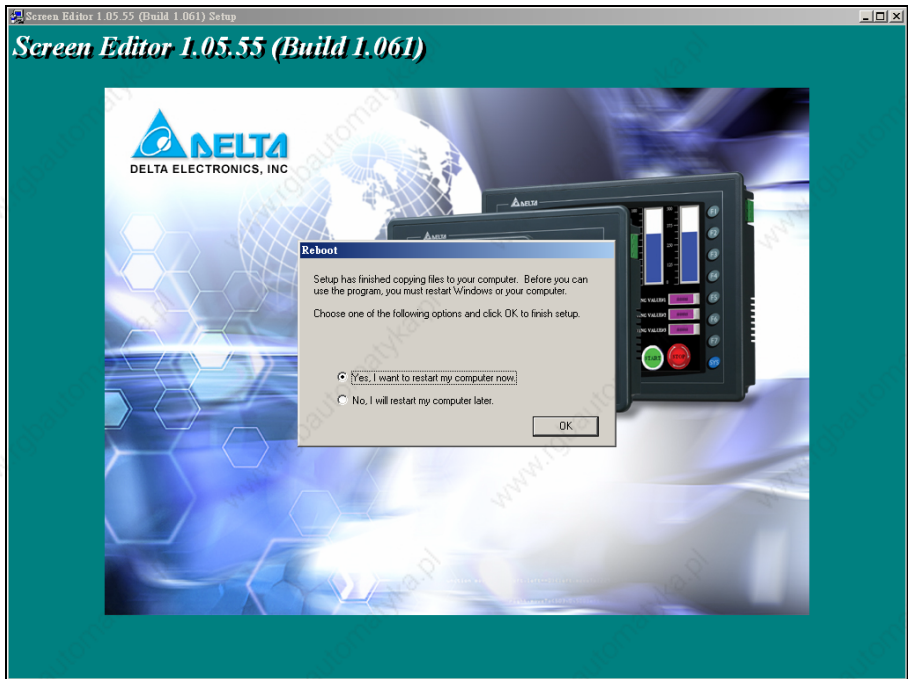

Fig. 2.1.7 Completing installation
6. Step 6: At this time, you have finished setup. Please click **Finish** to complete setup. (Fig. 2.1.7)